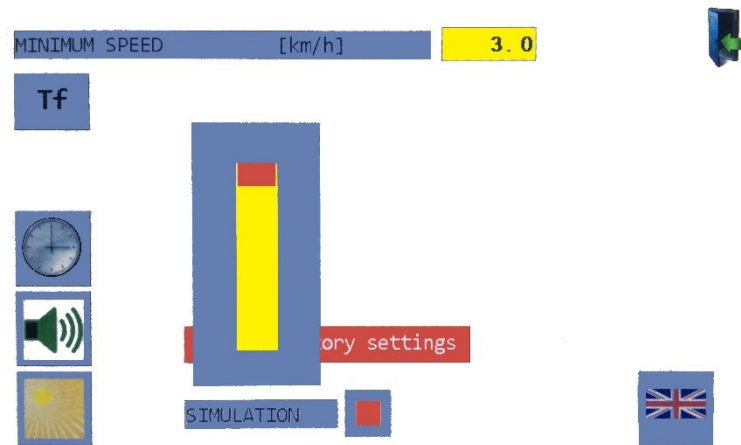

Figure 34
- Screen brightness is set by pressing  icon, and adapting the light to the conditions by moving the red cursor (Figure 34).